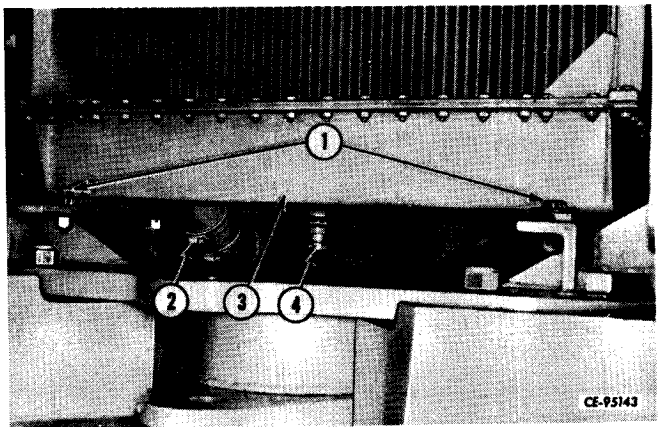

Figure 2-45
Using a suitable hoist, lift radiator (3, Fig. 2-45) into position, inserting lower radiator outlet into hose (2). Install and tighten mounting cap screws and nuts (1). Position and tighten lower hose clamp (2). Install upper radiator hoses (not shown) to radiator and position and tighten hose clamps. Close petcock (4).